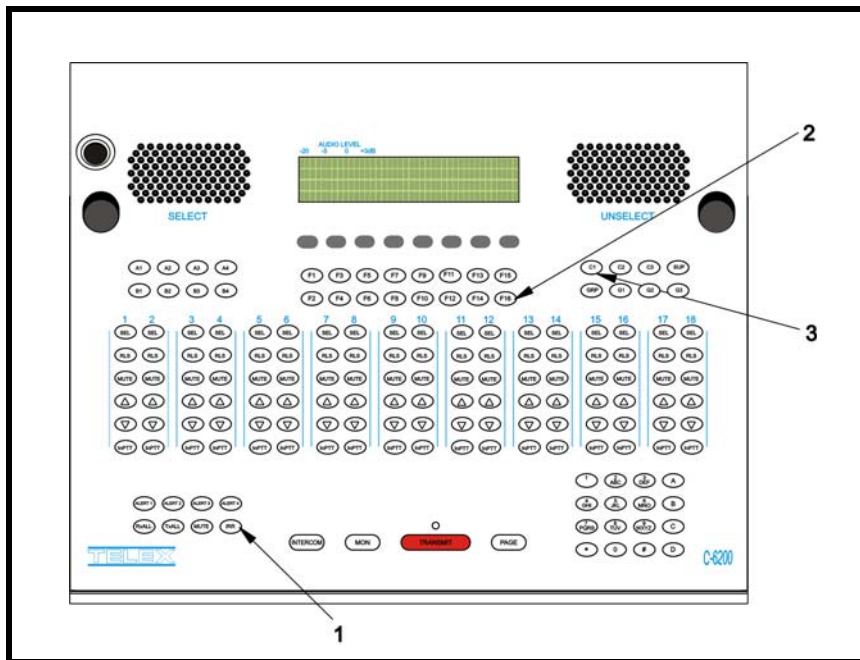

FIGURE 20. Enter Quick Clock and IP Lookup Mode
1. On the C-6200, press and hold the **MUTE** button, **F16** button, and the **C1** button in that order. See Figure 20. *The IP Address, Subnet Mask, clock and edit clock menu appear. See Figure 21.*
- On the C-6200, press and hold the **MUTE** button, the **F16** button, and the **C1** button in that order. See Figure 20. *The IP Address and Subnet Mask appear on the display. See Figure 21.*